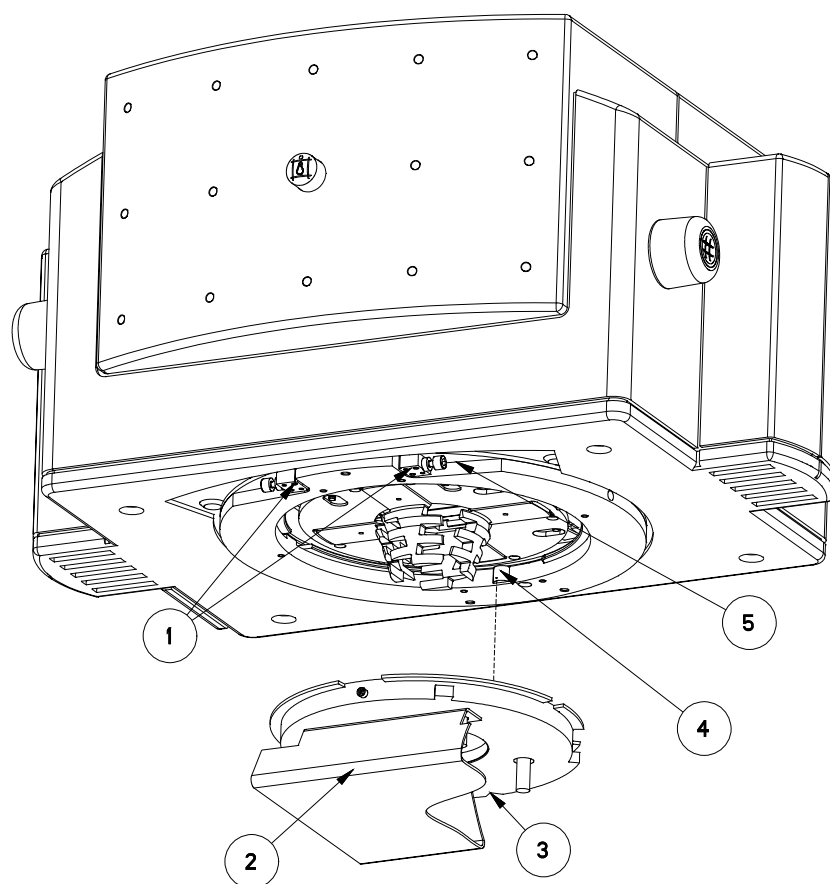

Figure 3: Mounting the BLD to the coupling flange
- Unscrew the locking plate screw (item 5, Figure 3, page 19) from each of the two locking plates (item 1, Figure 3) and push them outwards as far as possible.
- Remove the shipping bracket (item 2, Figure 3) together with the coupling flange (item 3, Figure 3) from the BLD
- Slide the two locking plates (item 1, Figure 3) outwards as far as possible.
- Mount the BLD on the coupling flange assembly, with the 0° locking mechanism (item 4, Figure 3) to slide into the notch (item 3) of the coupling flange
- Secure the two locking plates to the coupling plate with the two screws (item 5)